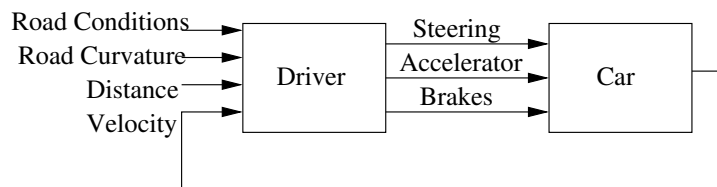

Figure 1.2 Block diagram describing a person driving a car.
- b. A driver uses a lot of information when maneuvering a car. The velocity of the car is important, but so is the surroundings of the car. The distance to car in front, curves and road conditions are examples of variables that affect the behavior of the driver. Typical control variables available to the driver are the steering wheel, the accelerator and the brakes. See Figure 1.2.